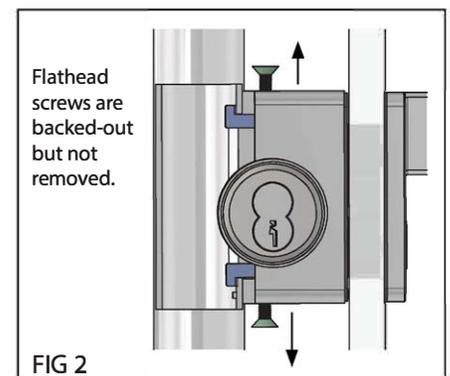

FIG 2
STEP 2: Loosen both screws about 1/4". Screws must remain engaged to the connection forks inside the cylinder housing (Figure 2).